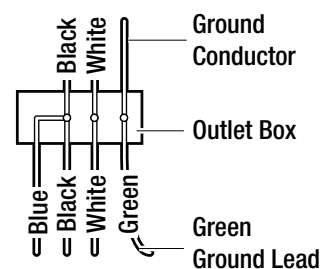

Figure 8
- Connect the fan supply (black) wire and light supply (blue) wire to the black household wire as shown in Figure 8. Do not connect the blue wire if the light kit is not used.
- After connecting the wires, secure the wire nuts (BB) with electrical tape and spread them apart so the green and white wires are on one side of the outlet box and the black and blue wires are on the other side. (i.e., grounded conductor on one side and hot wires on the other side.)
- Turn the wire nuts (BB) upward and push the wiring into the outlet box.